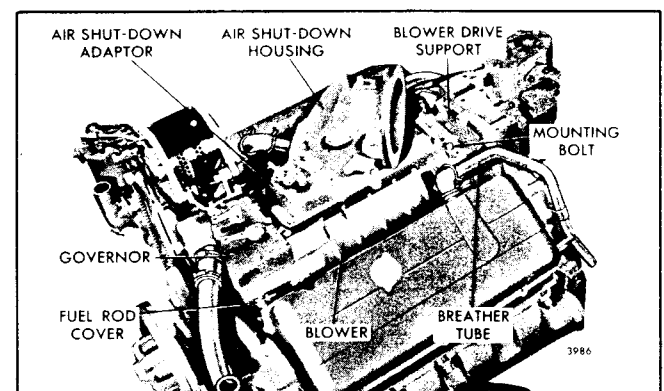

Fig. 3 - Typical Blower Mounting
- b. Position the light governor weights (high speed-limiting speed governor) in a horizontal position to provide clearance (Fig. 3). Turn the operating shaft fork away from the blower, if necessary, for additional clearance.
Refer to Figs. 3 and 10 and disassemble the blower as follows: